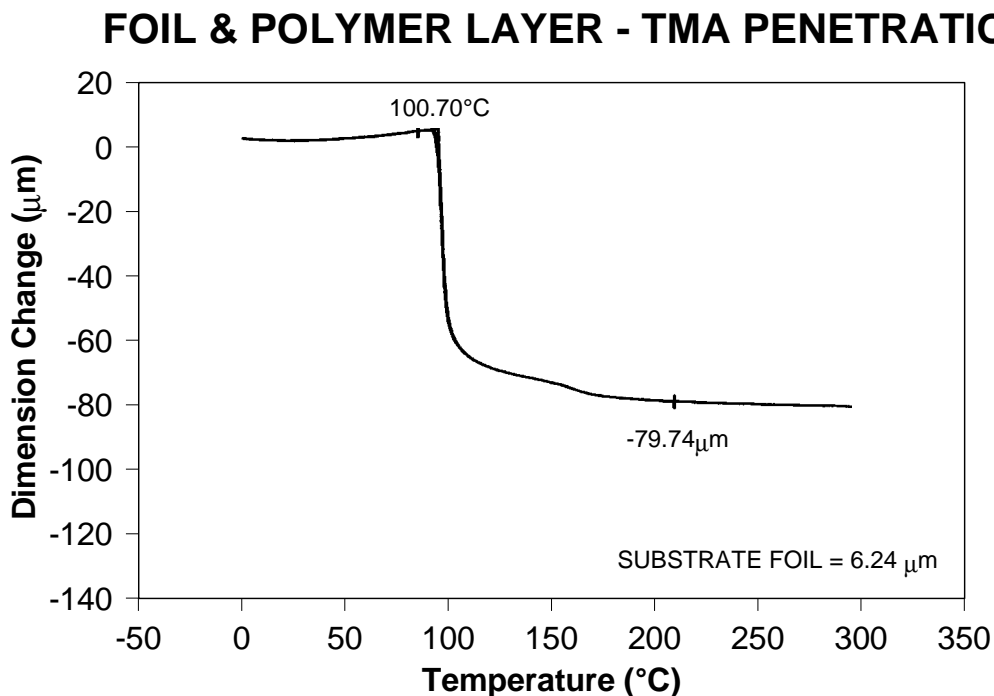
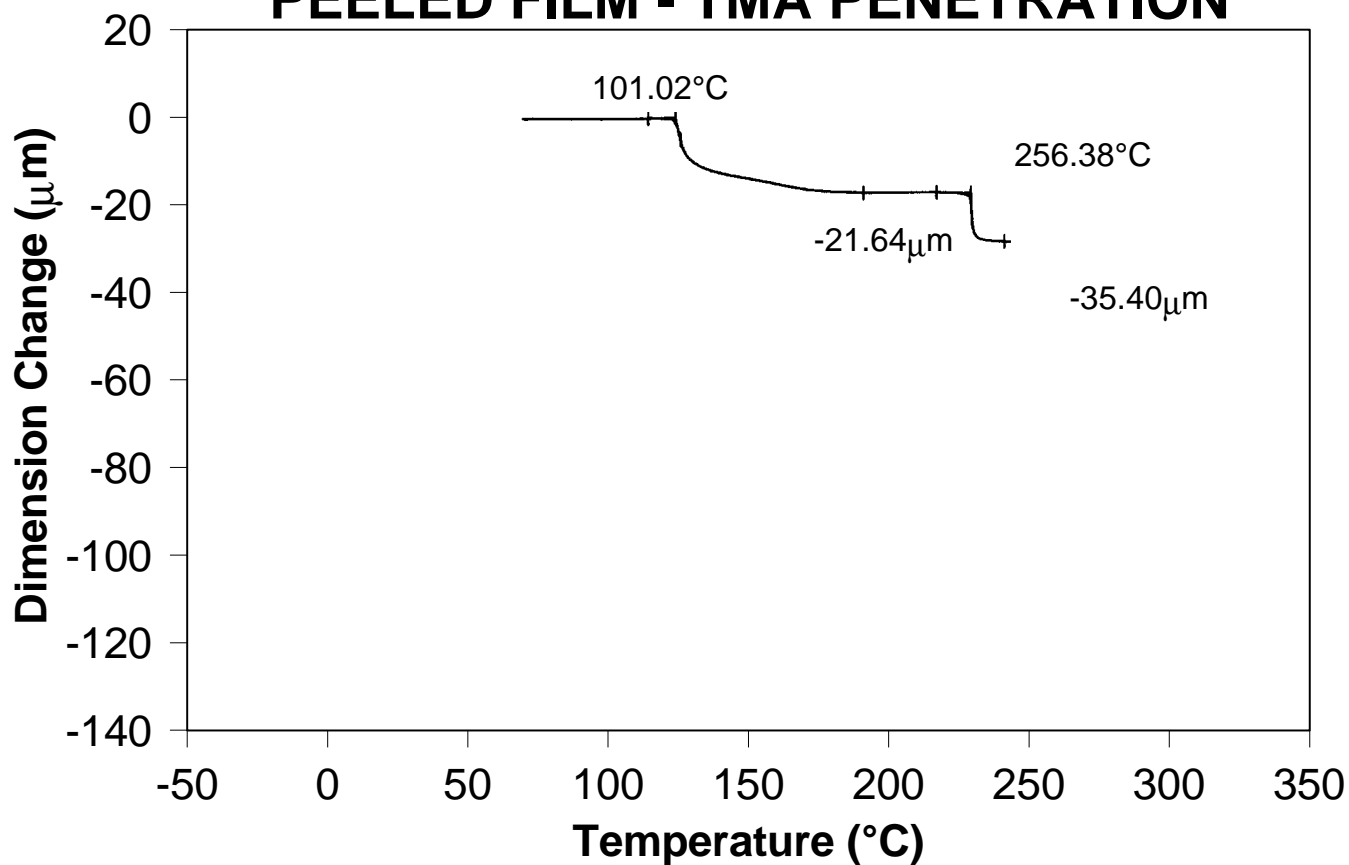

Figure 4
Figure 5
Further evaluations of the original multilayer film, however, reveal that the film actually contains more than three layers. Figure 4 and 5 show the results after the film layer on one side of the metal foil is peeled away. Figure 4 shows that the film remaining on the metal foil is polyethylene, while the peeled film (Figure 5) is not only polyester, but also contains a layer of polyethylene. The thin layer of polyethylene between the foil and the polyester layer serves as a "hot melt" adhesive to bond those layers together (2). In the TMA results for the total film, the two polyethylene layers soften at the same temperature, and the total penetration represents the combined layer thicknesses.